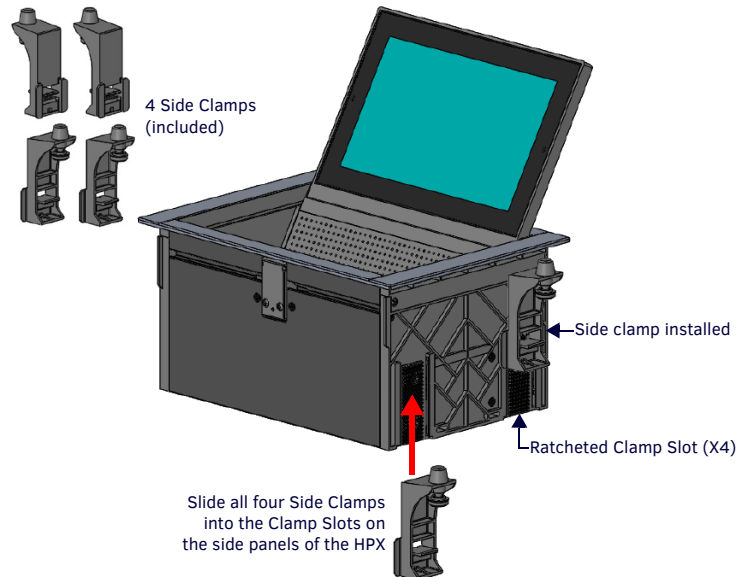

FIG. 5 HPX TOUCH ASSEMBLY AND SIDE CLAMPS
- Use all four included Side Clamps to secure the HPX-MSP-7 to the mounting surface (FIG. 5):
- Press down on the Release Tab on the Side Clamp (see FIG. 5), and slide the clamp into the ratcheted Clamp Slot until it contacts the underside of the mounting surface.